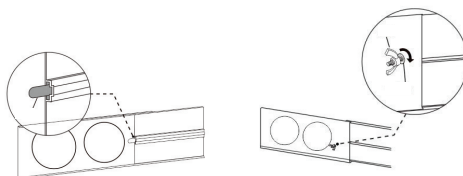

Fig. 2
Step 2: Secure the panels to each other by attaching them with the tabs and butterfly bolts (but don't tighten them yet) as shown in Fig. 2.